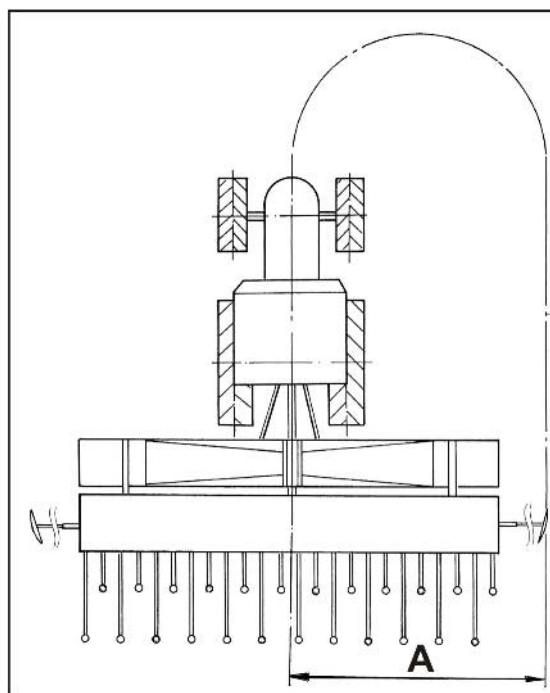

Fig. 99
- Pressure relief valve (Fig. 99/1)
1. Remove the protective cover (Fig. 99/1)
4. After making the setting, secure the valve position with a lock nut and replace the protective cover (Fig. 99/1).